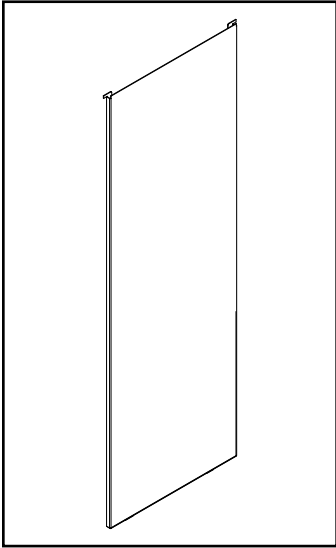
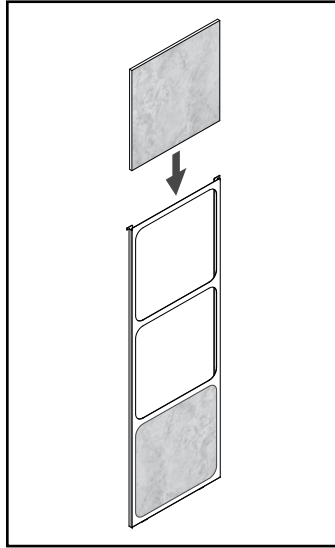

Figure 17.1
Figure 17.2
Your appliance ships with two different side options, one is a solid side panel (**Figure 17.1**) and tile side panel (**Figure 17.2**). There are two of each and no left or right side, these can be changed at anytime.
- Stack non-combustible material tiles in tile frame as shown in **Figure 17.2**.